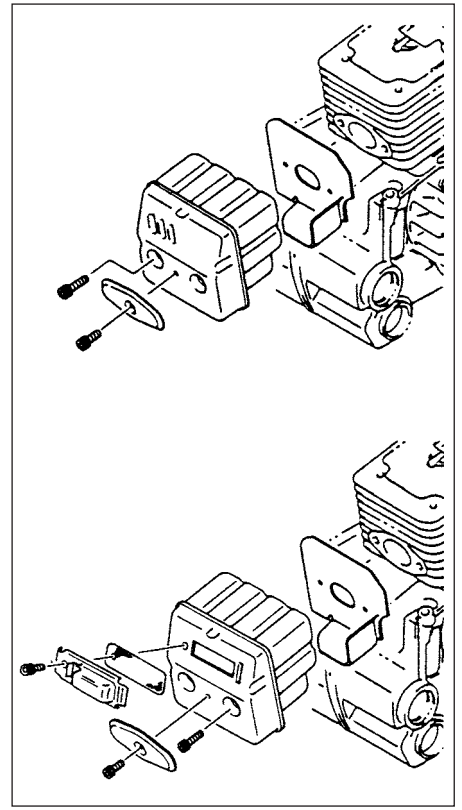

Fig.3-10
**Cleaning the muffer (Fig. 3-10)**